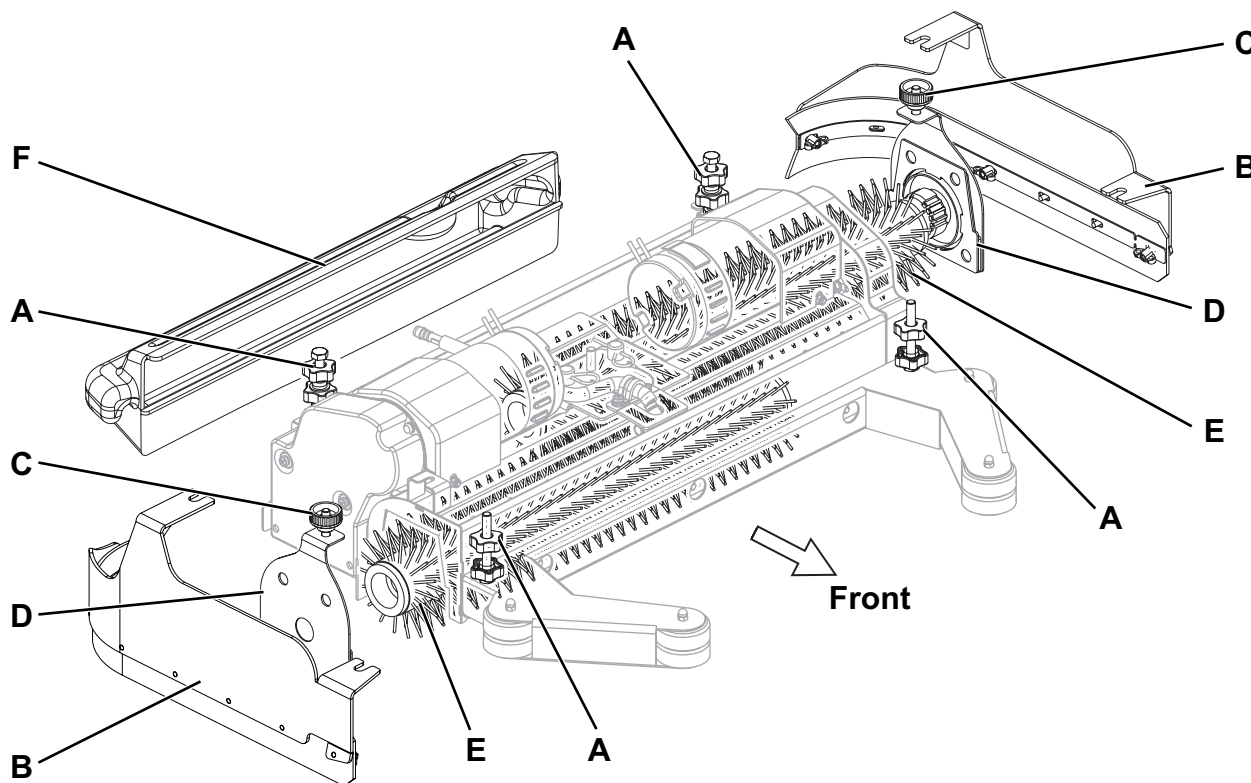

Figure 2
2. Raise the deck by pressing the One-Touch push-button (67).
3. Turn the ignition key (58) to "0" and remove it.
4. On both sides of the machine, unscrew the knobs (A, Fig. 2) and remove the side skirt assemblies (B).
5. Unscrew the knobs (C) and remove the lids (D) by pushing the knobs downwards.
6. Install the cylindrical brushes (E), or remove them to install new ones.